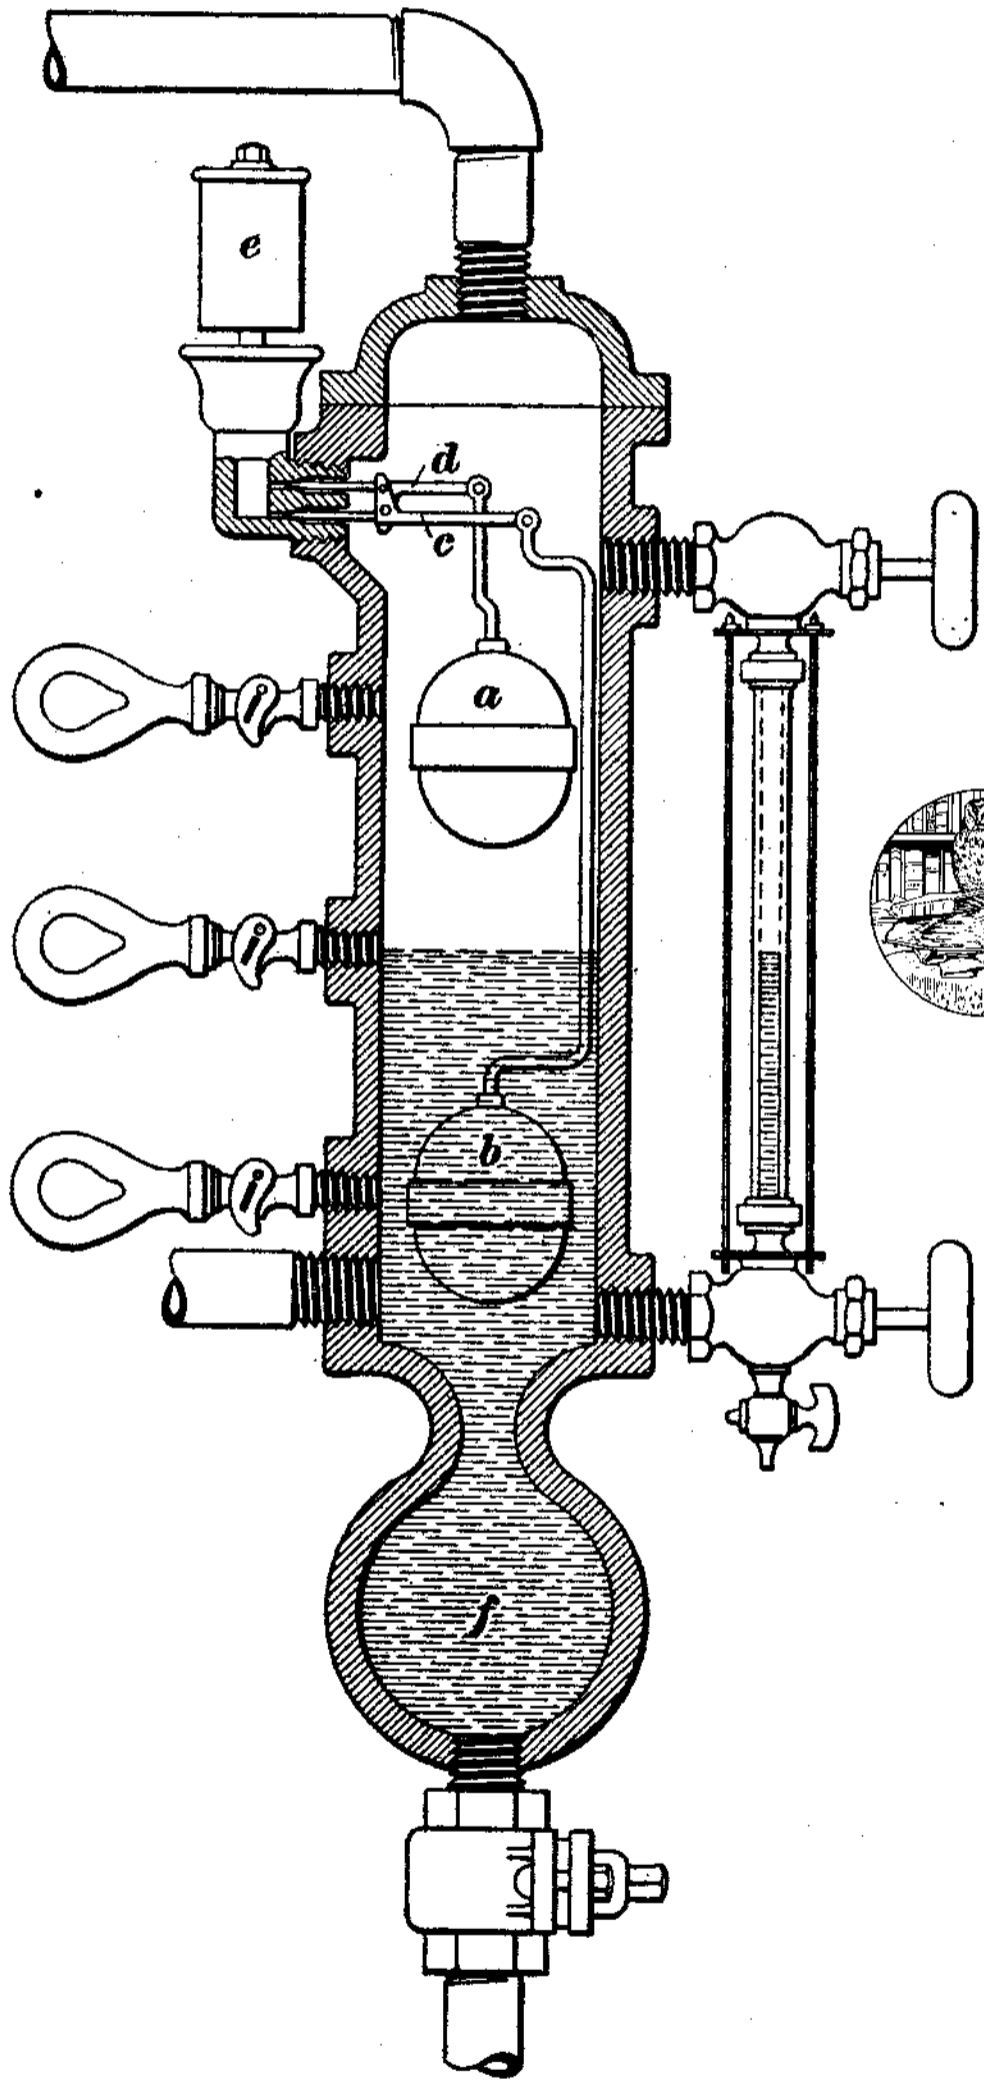

FIG. 14
26. The Reliance high- and low-water alarm is shown in Fig. 14. The device consists of two hollow floats *a* and *b* suspended from the bell-cranks *c* and *d*. To the short arm of each bell-crank is attached the valve stem of a small valve, there being one valve for each float. These valves serve to put the steam space of the water column in communication with the alarm whistle *e*. In this particular design, a sediment chamber *f* is formed at the bottom of the column and collects all foreign matter that settles from the water. The water-column drain is connected to the settling chamber. When the water is at its proper level, the float *b* is surrounded by water and, being hollow, is pressed upwards; this keeps the upper whistle valve closed. If the water becomes low in the column, so as to begin to uncover the float, then the upward pressure due to the buoyant effect of the water gradually diminishes and finally will become so small that the float will descend, thus opening the upper whistle valve and sounding the alarm. The high-water alarm float *a* keeps the lower whistle valve closed by the weight of the float. When the water rises, the float is carried upwards, the lower whistle valve is opened, and the alarm sounded.